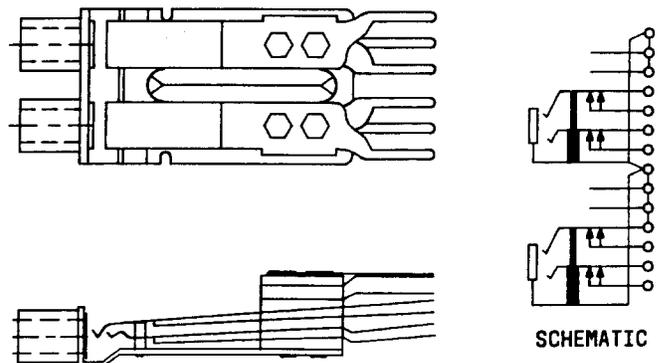

Fig. 3—653AM Jack
2.03 653AM: The 653AM jack is a singly-mounted, 3-conductor, twin-type jack (Fig. 3) for mating with a 338- or similar-type twin plug. Each jack's tip and ring elements contains an isolating (break) contact with each jack having two additional terminals for additional connections. All terminals are equipped for solderless wrap connections and the frame has one centrally located mounting hole. This jack is used on the DSX1 test jack assembly.